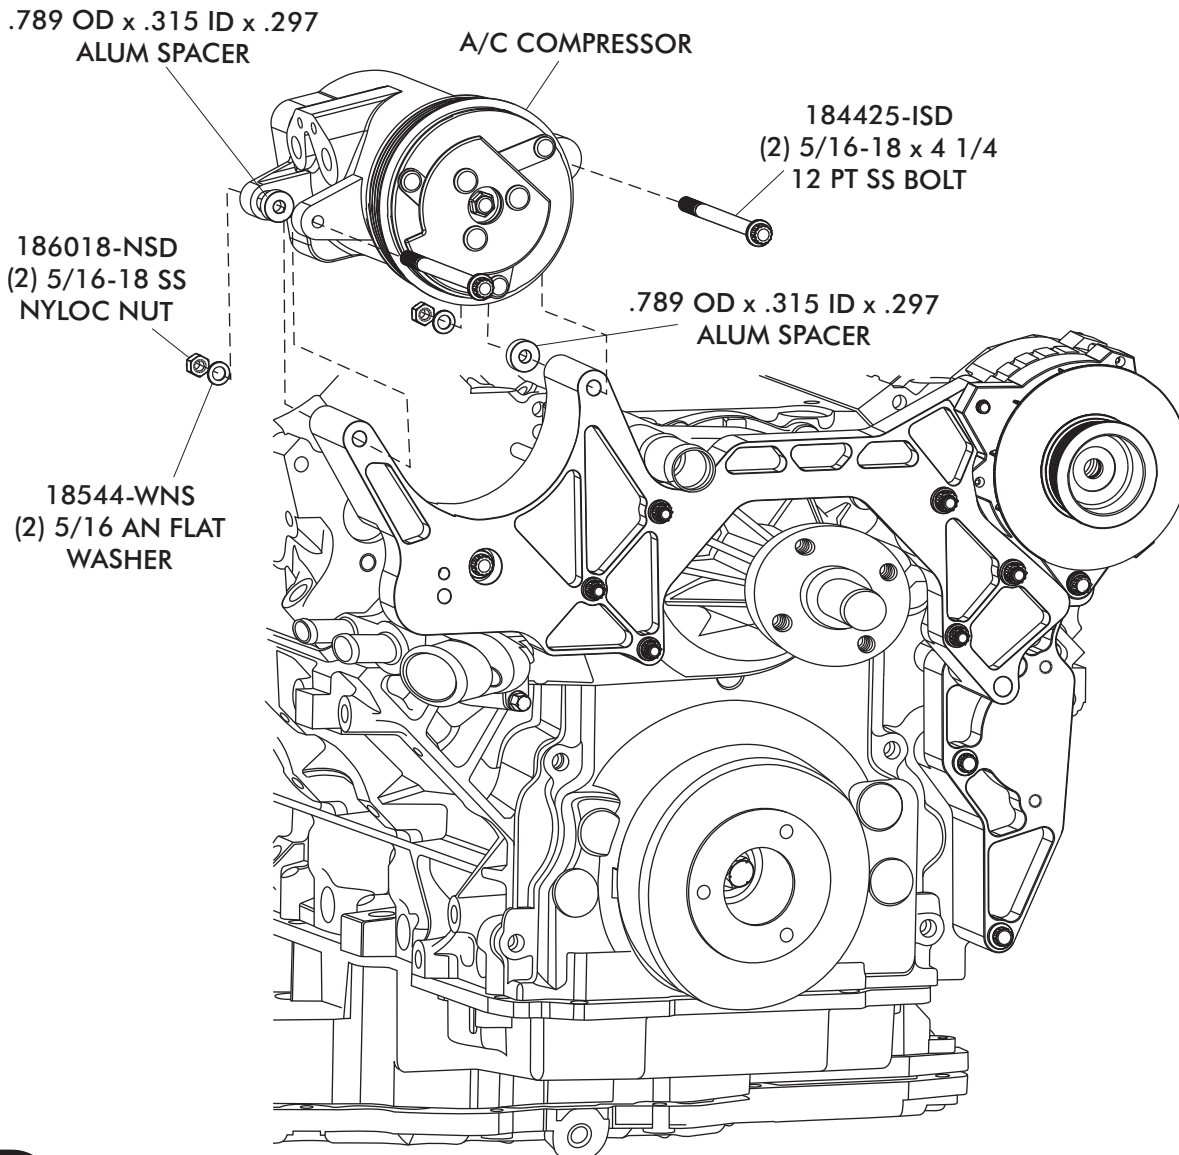

FIGURE 7
- INSTALL A/C COMPRESSOR AS SHOWN IN FIGURE 7 BELOW.
- INSTALL (2) .789 OD x .315 ID x .297 ALUM SPACER BETWEEN COMPRESSOR AND BRACKET, ALONG w/ (2) 5/16-18 x 4 1/4 12 PT SS BOLTS, (2) 5/16 AN FLAT WASHERS, AND (2) 5/16-18 SS NYLOC NUTS. SEE FIGURE 7.